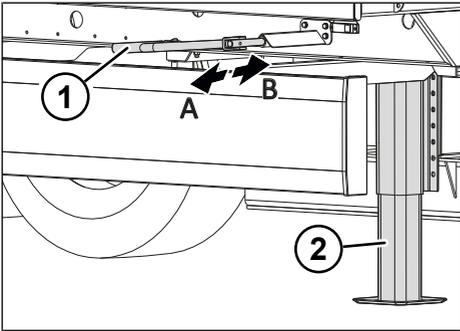

Fig. 5-2: Load speed and rapid speed of the landing leg winch
- ▶ Switch on rapid speed by pulling out the hand crank (see "Fig. 5-2: Load speed and rapid speed of the landing leg winch", pg. 24).
- ▶ Switch on load speed by pushing in the hand crank (see "Fig. 5-2: Load speed and rapid speed of the landing leg winch", pg. 24).
- ▶ Set to load speed by pushing in the hand crank (see "Fig. 5-2: Load speed and rapid speed of the landing leg winch", pg. 24).
- ▶ Set to high speed by pulling out the hand crank (see "Fig. 5-2: Load speed and rapid speed of the landing leg winch", pg. 24).